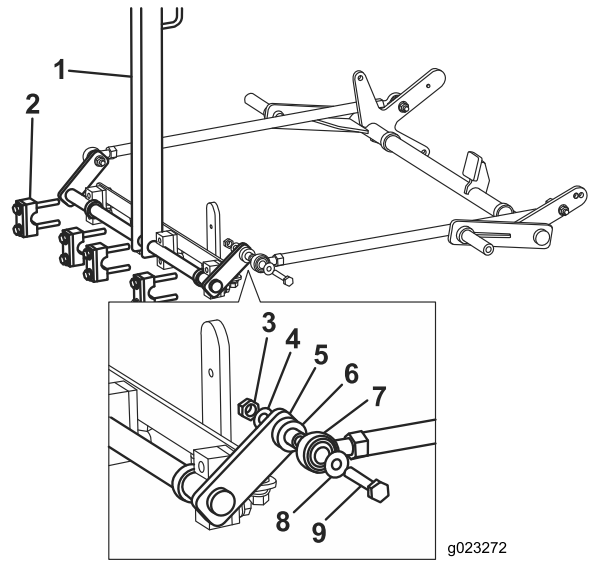

Figure 4
2. Place the bolt through the washer and rod end, the bushing, the bar, the washer, and secure with the nut (Figure 4). Do not tighten the nuts. The nuts must be loose to allow adjustment to the tow bar later in the procedure.